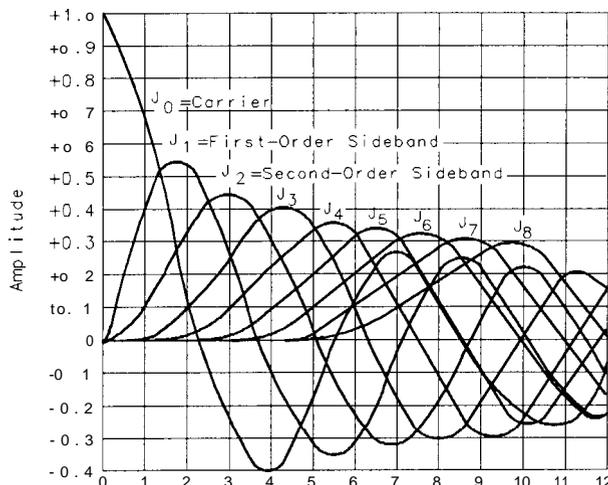

Figure 2-10. Bessel Functions for Determining Modulation Index
3. Figure 2-10 contains Bessel functions for determining modulation. (Table 2-1 and Table 2-2 also contain modulation index numbers for carrier nulls and first sideband nulls.)